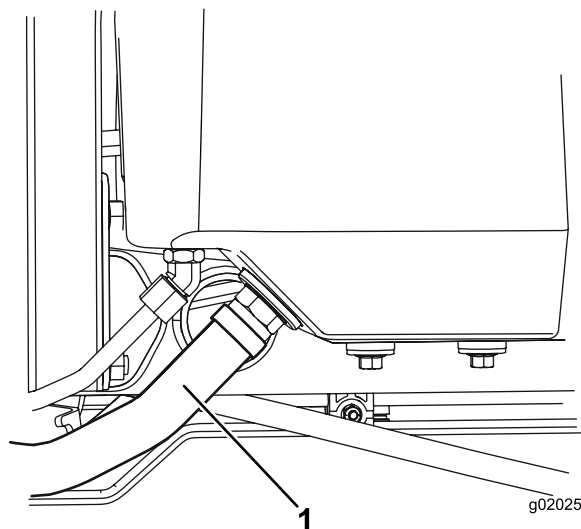

Figure 78
2. Disconnect the large hydraulic hose (Figure 78) from the reservoir and let the hydraulic fluid flow into a drain pan.